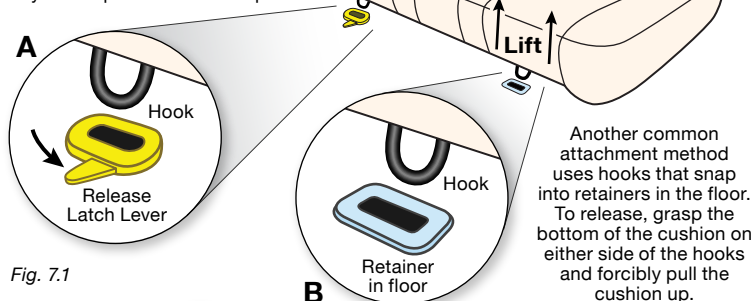

Fig. 7.1
A. For most cars the seat cushion must be removed to install the seat cushion cover. Many rear seat cushions have hooks securing the front of the cushion. Locate the hooks under the front edge of the seat cushion and see if there is a release mechanism. If there is, press, pull, or turn the release lever and then pull the cushion upward (*Fig. 7.1 A*).
If there are hooks but no release mechanism, grasp the cushion with your hands on either side of the hooks and forcibly pull the cushion up (*Fig. 7.1 B*).